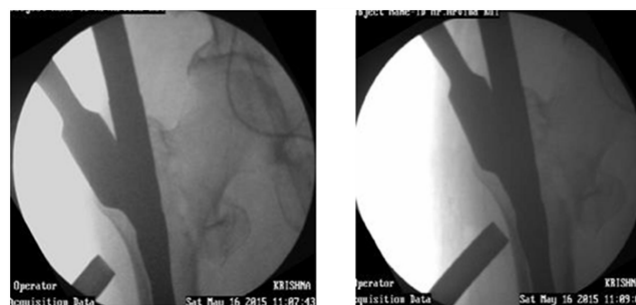

Figure 21 Hammer sleeve in to touch cortex. Remove intervening soft tissues like fascia lata.
F. Hammer sleeve in to touch cortex. Remove intervening soft tissues like fascia lata (Figure 21).